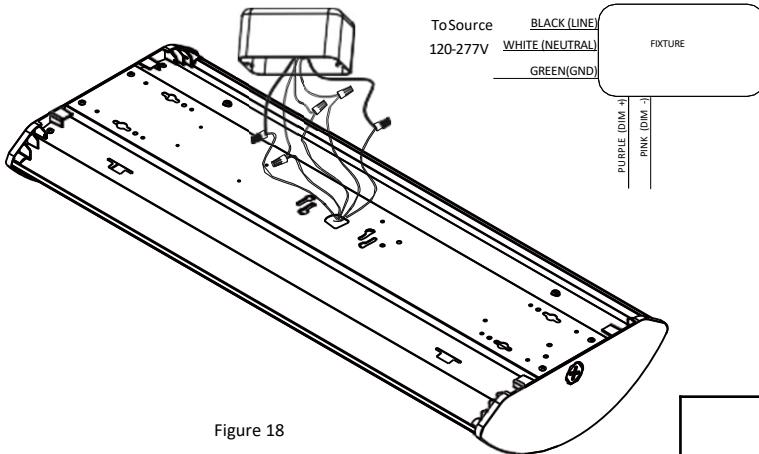

Figure 18
- Make the wire connections Black to Line, White to Neutral and Green to Ground. Use the supplied wire nuts to secure the connections. *See Figure 18.*